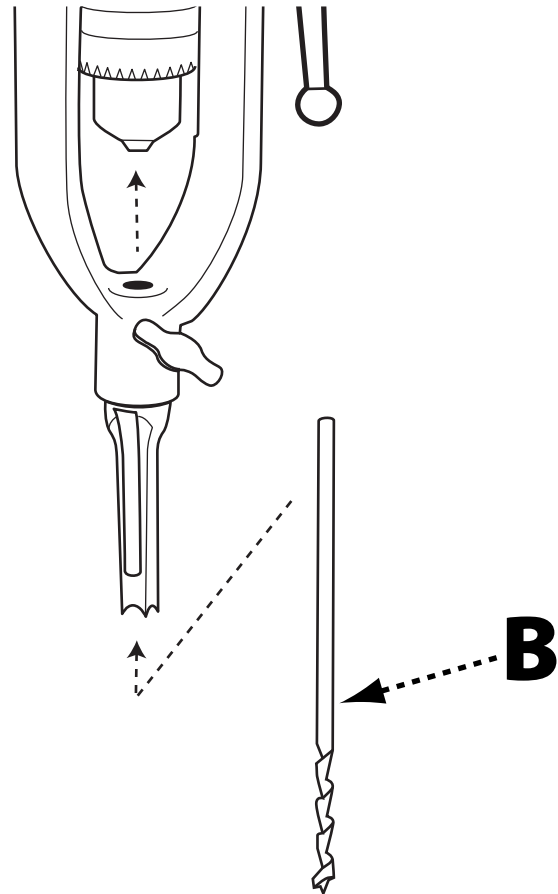

FIGURE 7
Feed the mortising bit (B) through the chisel and into the drill's chuck. The bottom of the bit must extend approximately 1/32" beyond the corner tips of the chisel, shown in Figure 7.